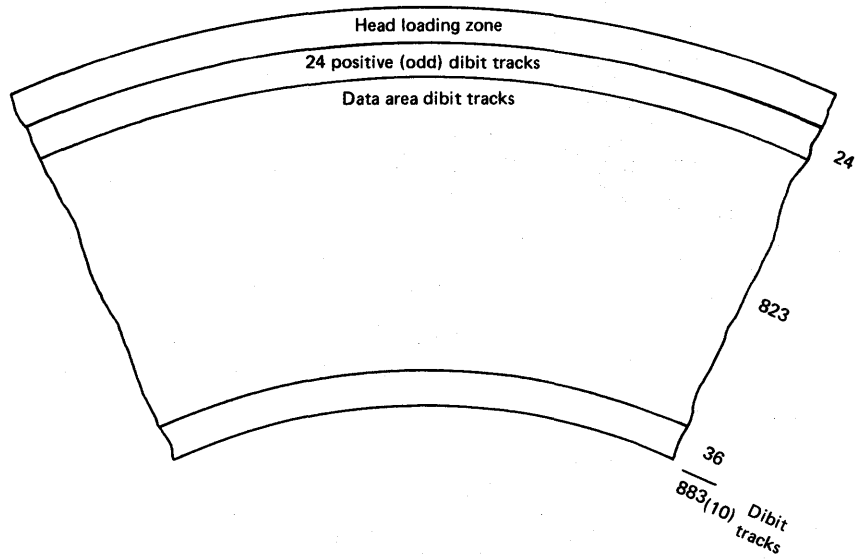

Figure 49. Servo surface tracks
17. The servo disk surface, illustrated in figure 49, has a total of 883₍₁₀₎ dibit tracks. Immediately inside of the head loading zone is a band of 24₍₁₀₎ positive dibit tracks, which is known as the outer guard band. When the heads initially load, they pass through this band on their way to cylinder 0. The signal generated from the outer guard band assists in finding cylinder 0. This area is also used to detect reverse end of travel when the heads are doing a return to zero seek.